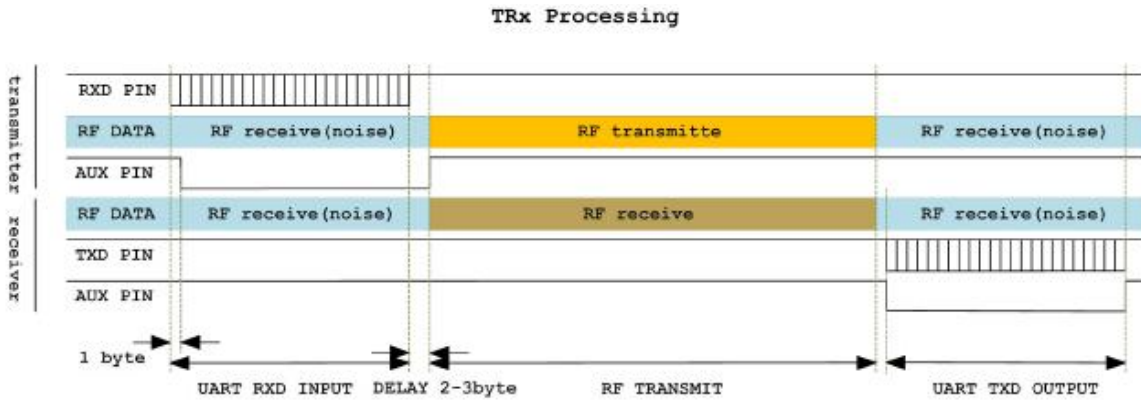

Figure 1 Sequence diagram in the Normal Mode
B) Receiving: The serial port is opened and the module is in a continuous receiving state. For example, after the module receives data from the current channel, after deinterleaving error correction and error detection to confirm that the data is correct, set AUX low and immediately output data from the serial port. Reset AUX high, after the serial port transmission is completed. Please refer to Figure 1 for the normal mode transceiver timing.
It should be noted that during the receiving or sending process of the module, even if the module is set to mode 3 or 4, the module must execute the receiving or sending process before entering the power saving mode or sleep mode. Using this feature, when the module is in mode 3 or Module 4 status, the user sets low SET\_A pin to wake up the module and input data through RXD. After the module receives the first byte, it immediately sets AUX low (see Figure 1), and judges the level of SET\_B pin. If high, a longer preamble is sent to wake up the receiver of the other party before transmitting data, and a normal preamble is sent if it is low. If the user needs to put the module to sleep after transmission, after AUX is low, set the SET\_A pin to sleep, instead of waiting for the module to send data wirelessly, the module will automatically detect the SET\_A pin after the data is sent, and if it is high, it will immediately Go to sleep.